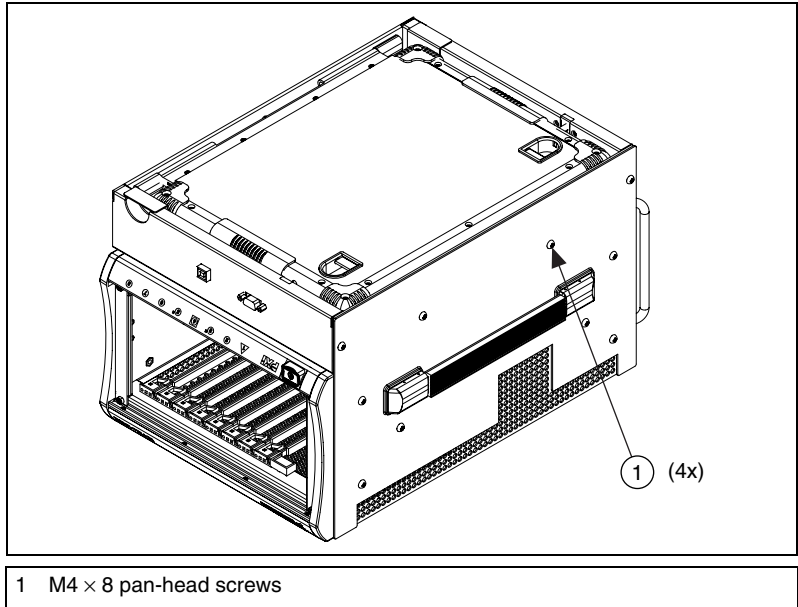

Figure 5. Installing the PMA-1115
6. Orient the chassis and PMA-1115 as shown in Figure 5. Install the remaining M4 × 8 pan-head screws.